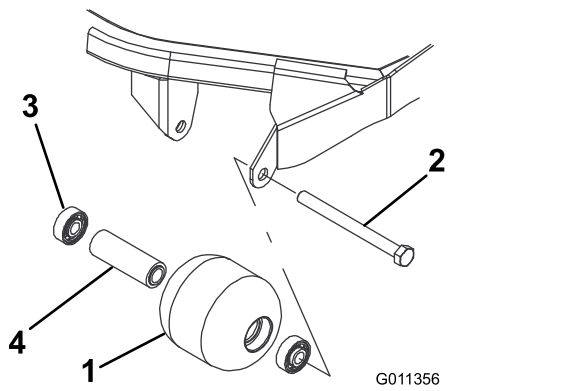

Figure 65
1. Remove the roller-mounting bolt (Figure 65).
1. Press the first bearing into the roller housing (Figure 65). Press on the outer race only or equally on the inner and outer race.
2. Insert the spacer (Figure 65).
3. Press the second bearing into the roller housing (Figure 65). Pressing equally on the inner and outer race until the inner race contacts the spacer.
4. Inspect the roller housing, bearings, and bearing spacer for damage (Figure 65). Replace any damaged components and assemble them.